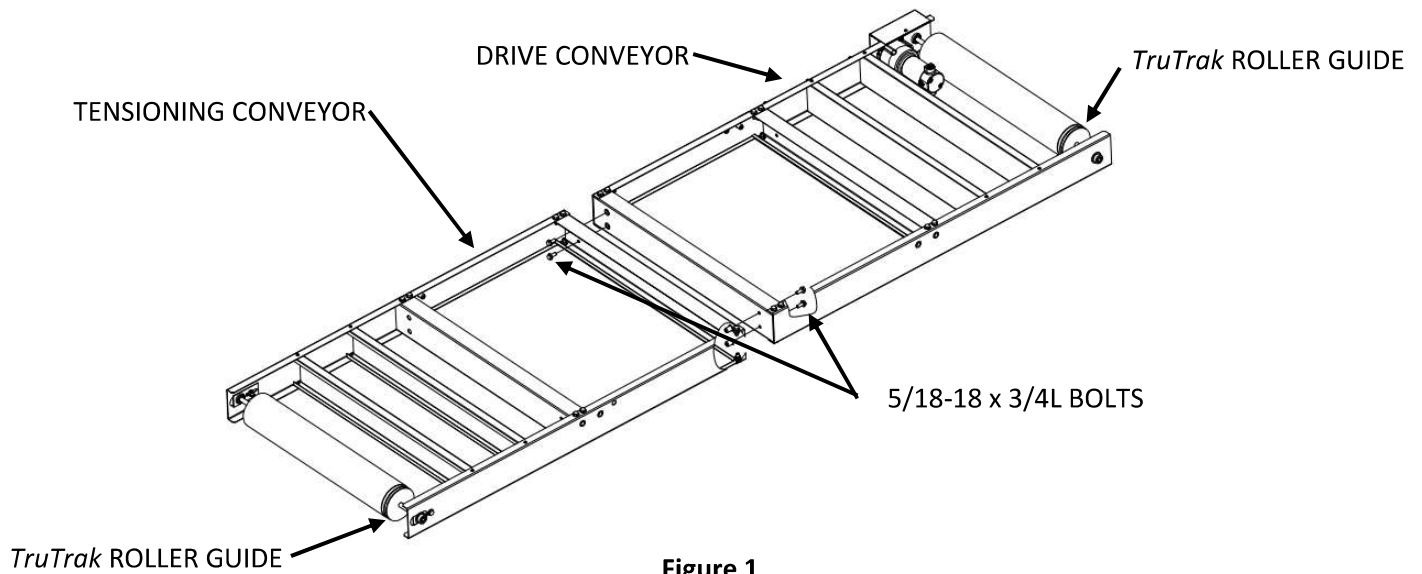

Figure 1
1. Place the **CONVEYOR DRIVE ASSEMBLY** on the covered floor (see **Figure 1**).